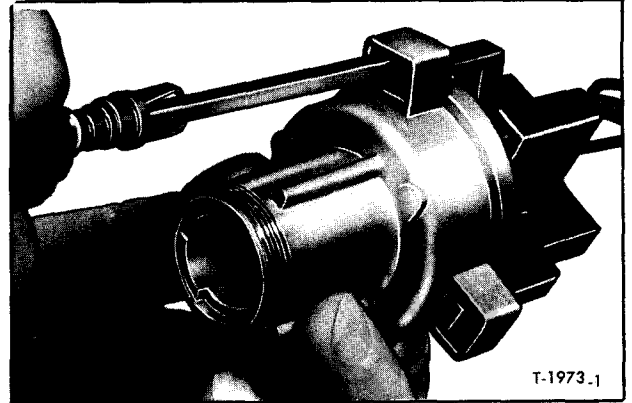

Figure 1—Disengaging Ignition Switch Connector
The ignition or control switch and harness-to-switch connector features a three tang lock to secure a firm connection (fig. 1). The switch lock cylinder and cylinder housing can be removed as follows:
4. Pull ignition or control switch from dash panel and separate wiring connectors by inserting the thin blade of a small screwdriver under each tang of wiring connector as shown in figure 1. Pull connector from switch.